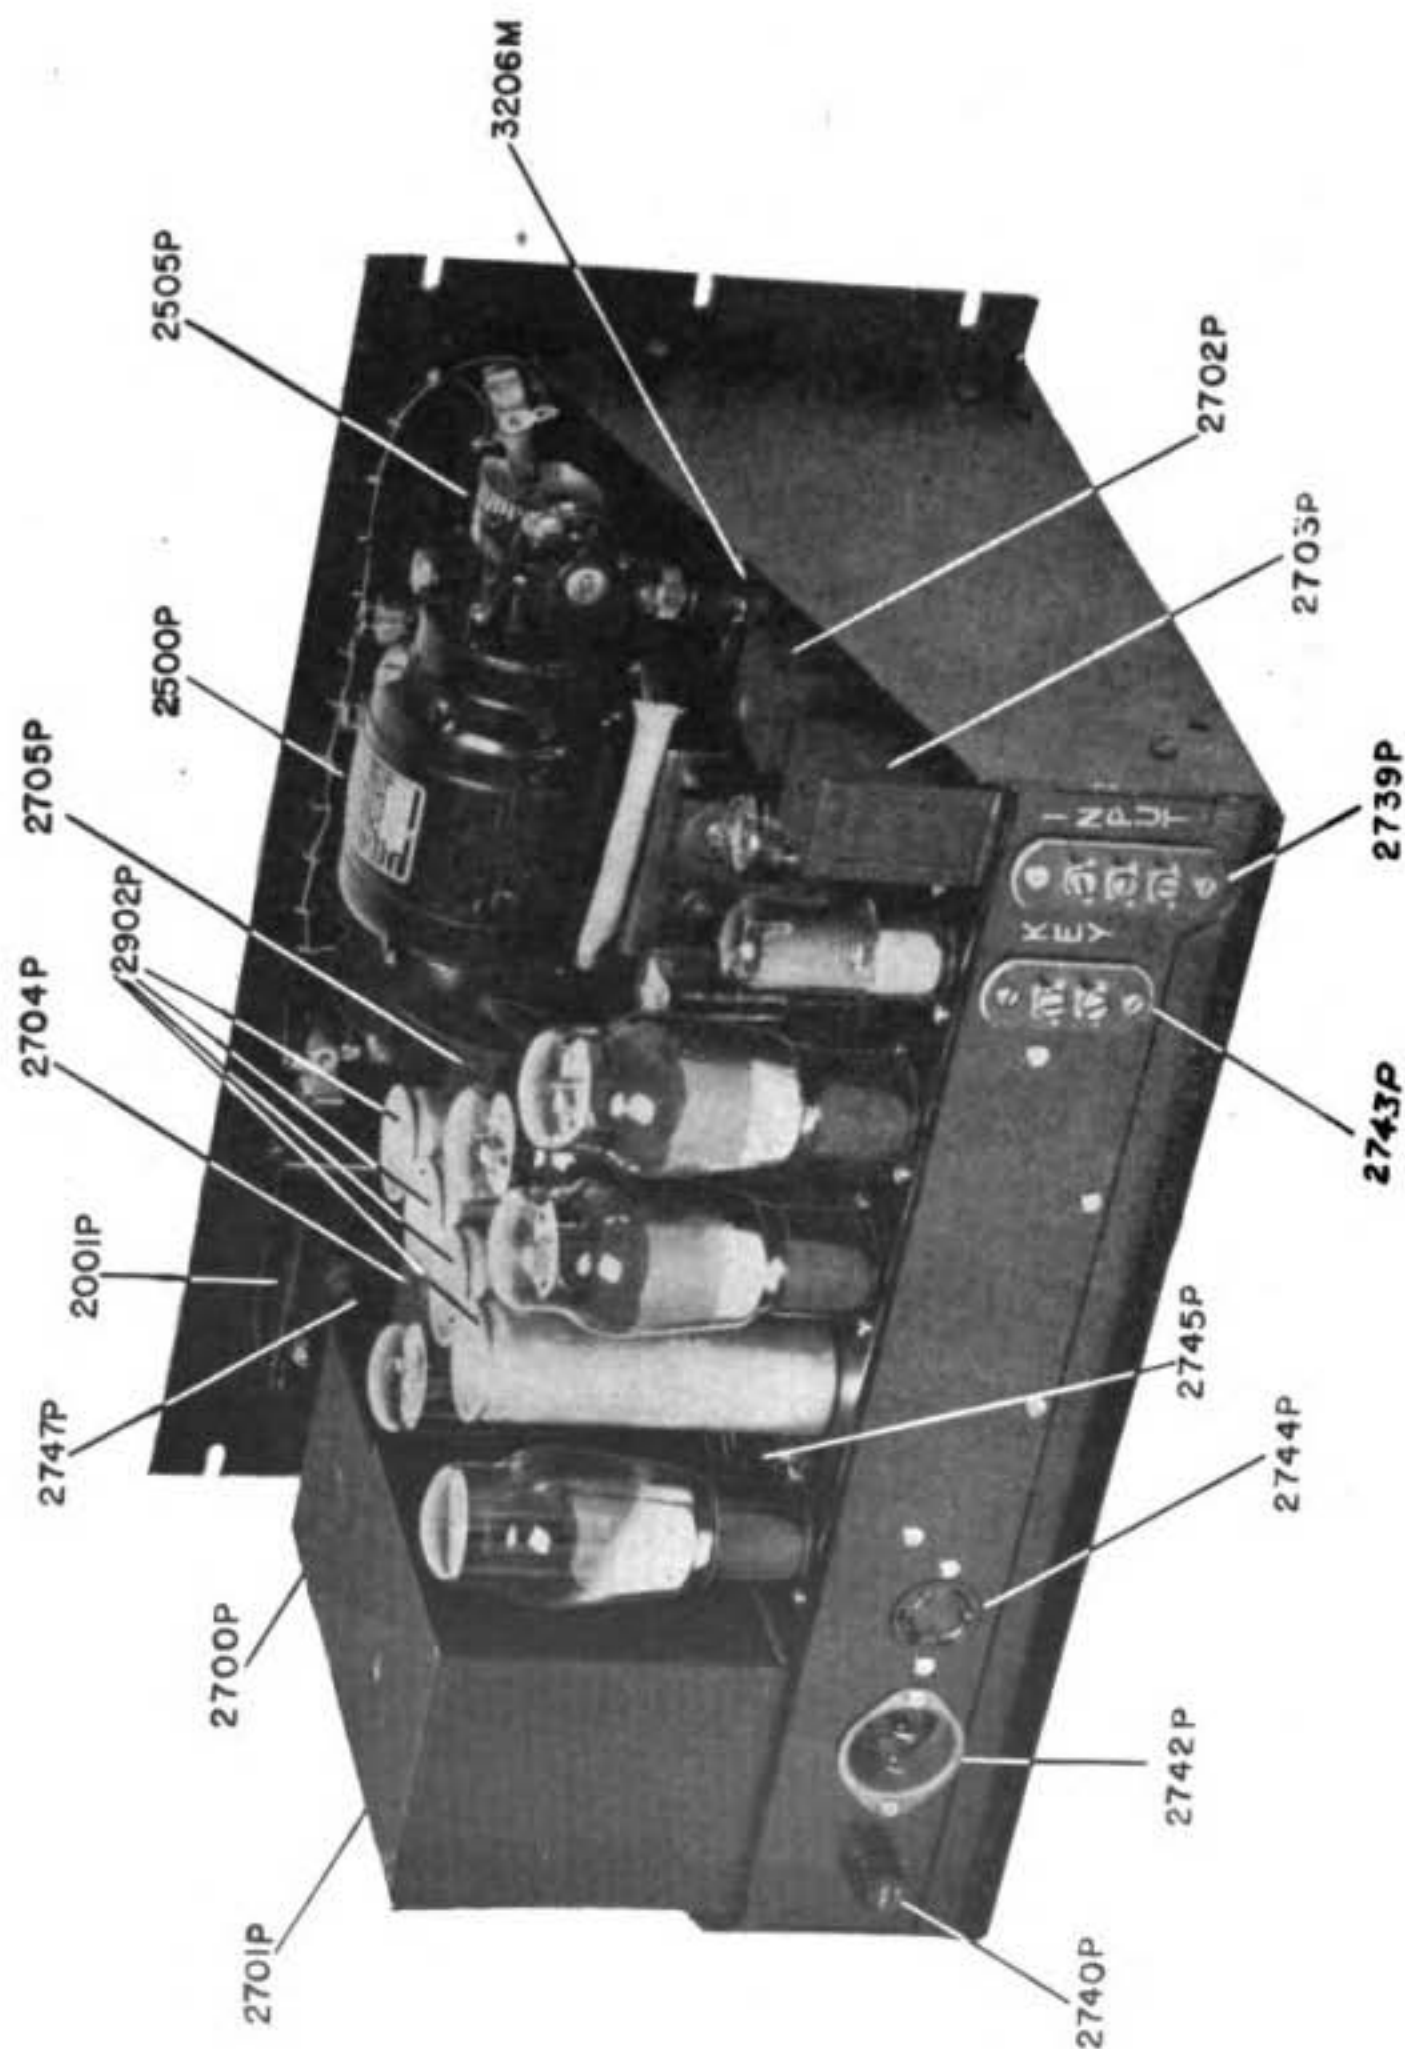

Figure 2—Recorder BC-1016, Rear View—Removed from Cabinet.
a. *Selection of Power Supply.*—Recorder is set at factory for operation on 117 volts, if operation on other voltage is desired, the following changes must be made: Located between the two Tubes VT-244 and accessible through the opening in the top of the cabinet is the a-c input switch (2745P, FIG. 2). Remove Tube VT-244 at the rear of the chassis. With a small screwdriver inserted through the grill on the rear of the cabinet, loosen the locking screw on the a-c input switch and turn the switch to required voltage position as marked on switch. When proper voltage setting has been made, tighten locking screw, and replace Tube VT-244.
b. *Selection of Proper Fuse.*—For operation on 117-170 volts, a 3-ampere protective fuse is used. For operation on 210-240 volts, this fuse must be changed to a 1½ ampere fuse. Remove the fuse holder cap (2740P, FIG. 2) on the rear of the chassis by pressing in and turning one-quarter turn in a counter-clockwise direction. Replace the 3-ampere fuse with the 1½ ampere fuse supplied and located in the tape drawer.
(2743P, FIG. 2) on the rear of the chassis. No battery or oscillator is needed—closing the circuit keys the recorder. The monitor jack (2556P) and THRESHOLD control are out of service but the SLOPE control functions exactly as outlined in PAR. 8c.
(1) *Table Mounting.*—If the recorder is to be operated on a table, place it in position and run leads from the appropriate input terminals (2739P, FIG. 2) to the radio receiver or transmission (telephone) line. Plug the line power cord into the receptacle (2742P, FIG. 2) on the rear of the chassis and into any convenient power outlet.